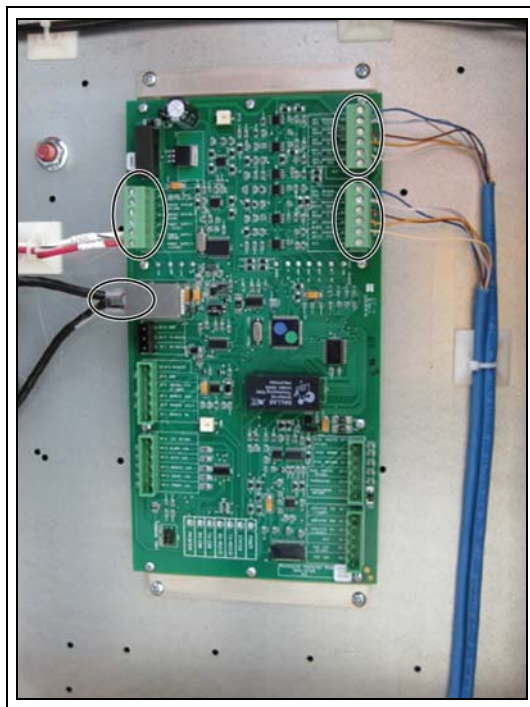

Figure 1 Remove Connections from the Old Moisture Control Board
2. Disconnect the three (3) green plug connectors from the circuit board and the two (2) Cat5E ethernet cables. **TIP:** You may want to label the plug for dry sensor and the plug for the wet sensor to ensure they are correctly installed into the new board. (See Figure 1.)